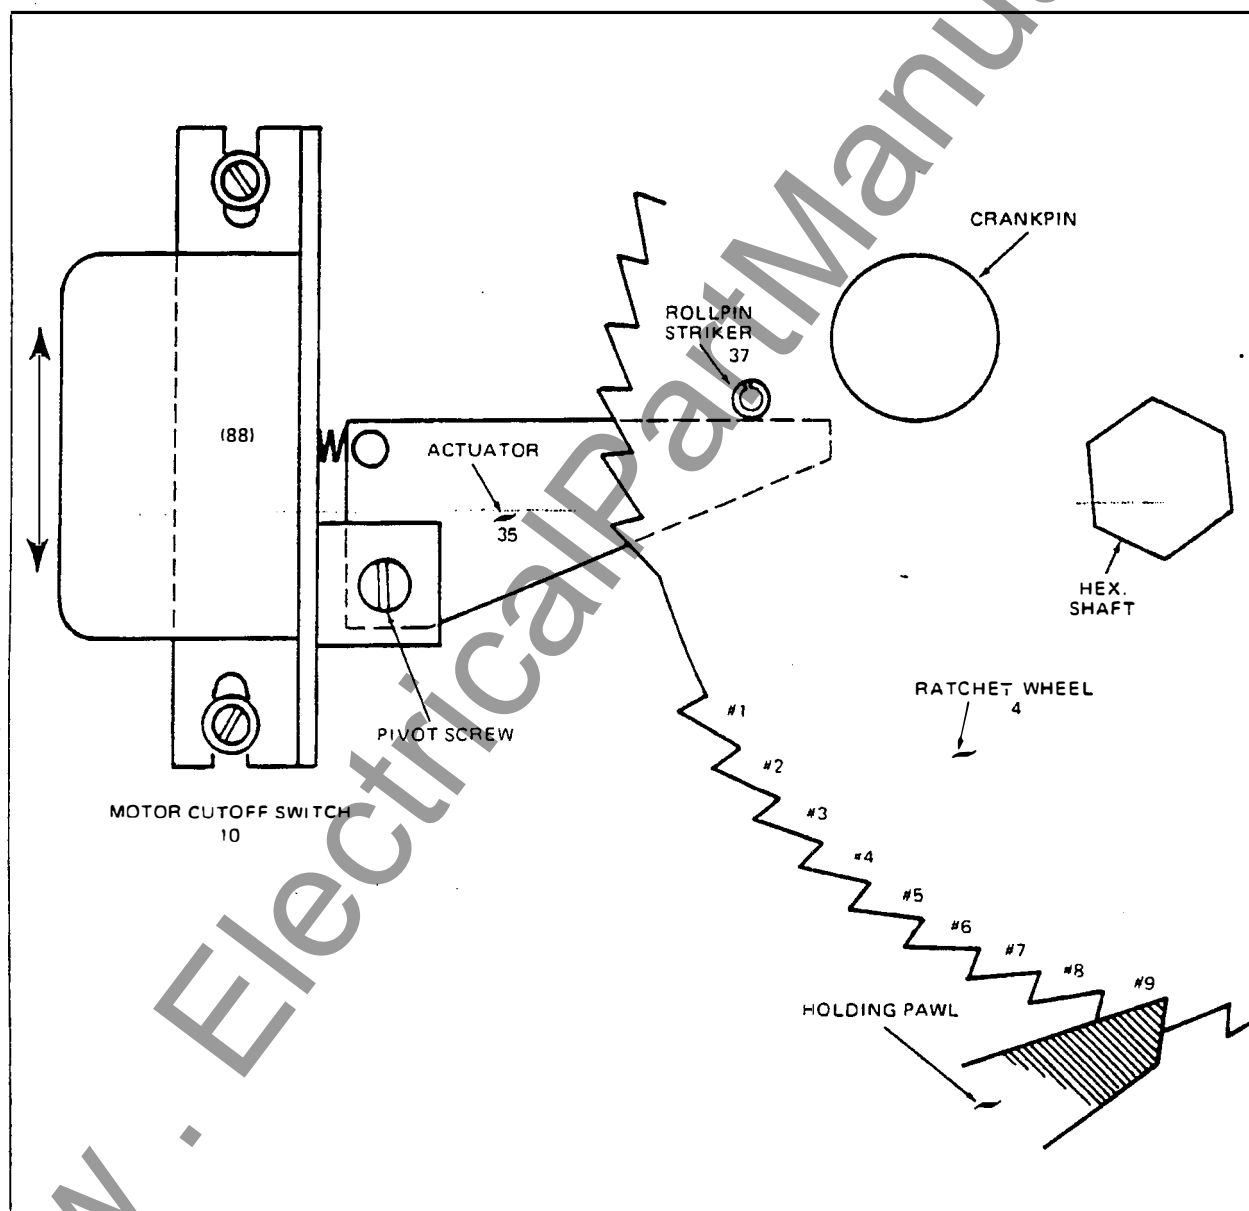

Figure 16. Motor Cutoff Switch
**Motor Cutoff Switch** — The 88 motor cutoff switch assembly (Figure 16) is factory adjusted. If it should become inoperative, entire unit must be removed and inspected for contact wear. Replacement may be necessary.
Advance ratchet and cam assemblies to position shown (Figure 16). The holding pawl must rest behind the ninth (9) tooth position on the ratchet as counted counterclockwise from area on ratchet periphery which lacks two teeth.